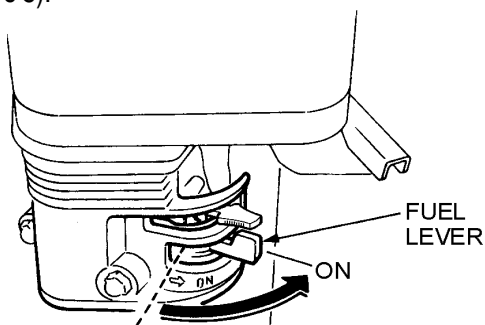

Figure 8. Fuel Valve Lever
1. Place the engine **fuel valve lever** to the "ON" position. (Figure 8).